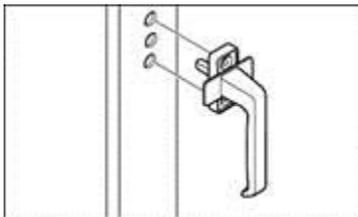

Figure 2 Handle in the vertical lock position
- a. Install the handle on the sash in the vertical **Lock Position**, with the handle pointing down. Insert the shaft into the center hole. See *fig. 2*.